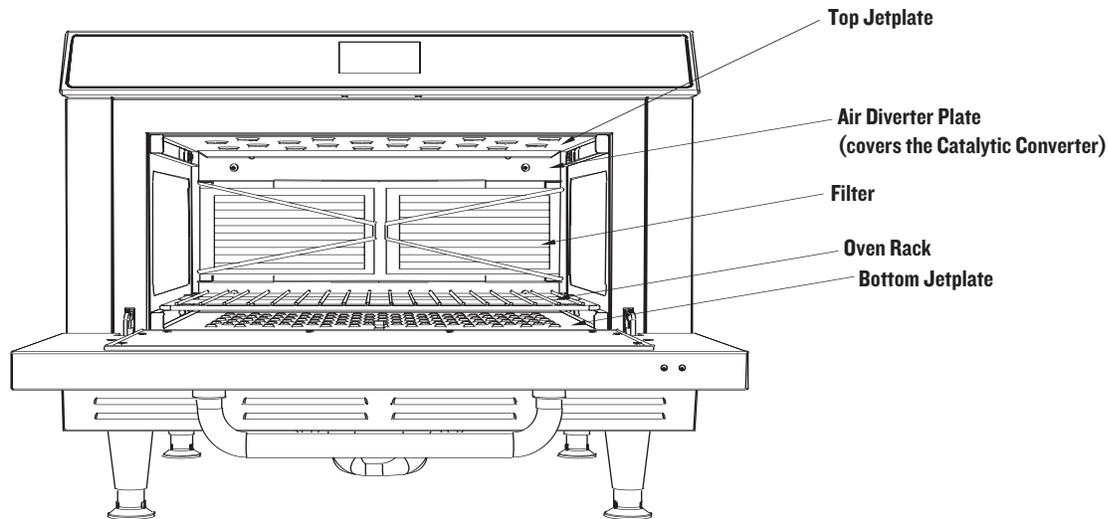

FIGURE 60: The Cook Chamber
The procedures below will help in maintaining the High h Batch oven. Be sure to use only TurboChef Oven Cleaner. Using any other cleaning products can damage critical parts and may void warranty on those parts. Refer to Figure 60, page 60 to view the Cook Chamber components.
**CAUTION:** Do not spray or wipe cleaning chemicals onto the Catalytic Converter (See Figure 60 for a diagram of the Cook Chamber).
TurboChef recommends deep cleaning the oven once a month (or more frequently, depending on use) to ensure optimal performance. Be sure to use only TurboChef Oven Cleaner. Using any other cleaning products can damage critical parts and may void warranty. Reference Figure 60, page 60, to view Cook Chamber components.